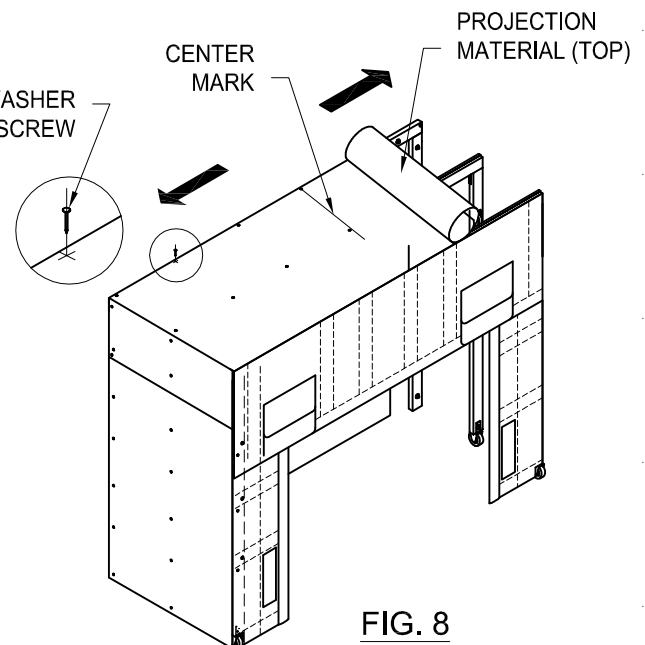

FIG. 8
* Release the top projection material from the top center outwards over both sides of the unit (fig. 8).